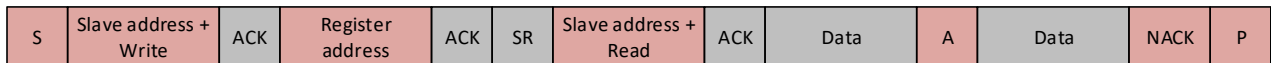

Figure 9: Write and read operations of the sensor
After receiving the register address, the slave sends an Acknowledgment (ACK). If the master is still writing to the slave (R/W bit = 0), it will transmit the data to slave in the same direction. If the master wants to read from the addressed register (R/W bit =1), a repeated start (SR) condition must be transmitted to the slave. Master acknowledges the slave after receiving each data byte. If the master no longer wants to receive further data from the slave, it would send No-Acknowledge (NACK). Afterwards, master can send a STOP condition to terminate the data transfer. Figure 9 shows the writing and reading procedures between the master and the slave device (sensor).